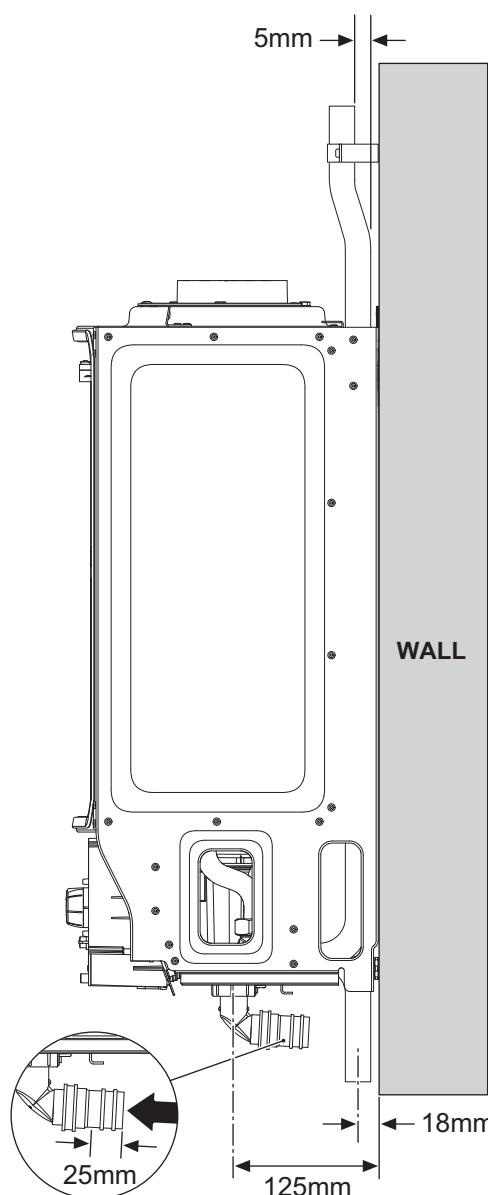

Fig. 31 Pipe work dimensions
Figure 31 gives the pipe work dimensions with respect to the mounting surface.
1. Fit washer (1) inside the plastic nut and attach firmly to the connection on the siphon.
2. Connect the condensate disposal pipe work to the elbow (2), refer to figure 31 and insert the condensate pipe 25mm into the elbow.